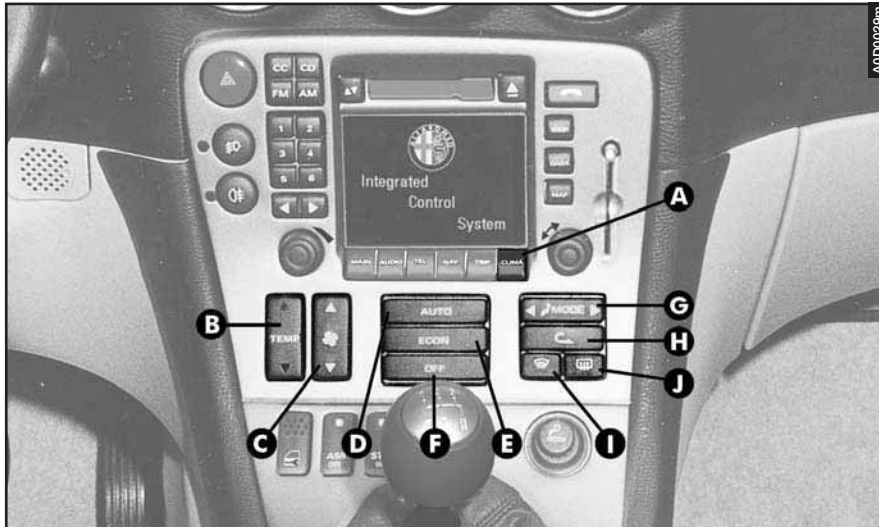

fig. 94
- the “equivalent temperature” required pressing the button (**B-fig. 94**);
DESCRIPTION OF CONTROLS (fig. 94)